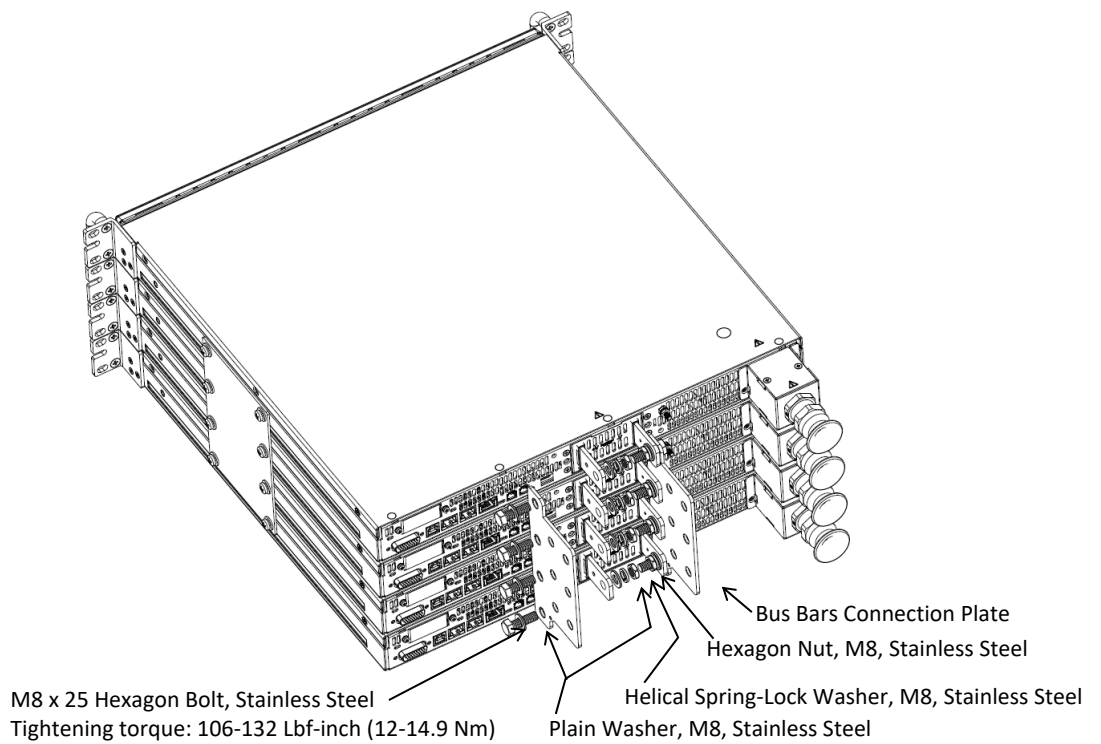

Figure 5: Four 60V-100V Units Output Bus Bars Plates Assembly
2. Attach output bus bars plates, one on each four terminals, using eight hexagon bolts, 16 plain washers, eight helical spring-lock washers and eight hexagon nuts as illustrated in Figure 5.